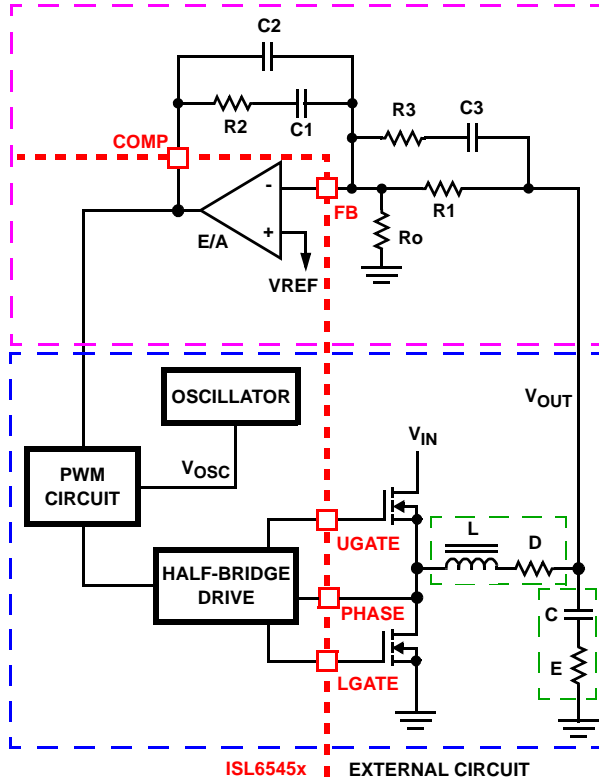

FIGURE 9. VOLTAGE-MODE BUCK CONVERTER COMPENSATION DESIGN
This section highlights the design consideration for a voltage-mode controller requiring external compensation. To address a broad range of applications, a type-3 feedback network is recommended, as shown in the top part of Figure 9.
Figure 9 also highlights the voltage-mode control loop for a synchronous-rectified buck converter, applicable to the ISL6545x circuit. The output voltage (V_{OUT}) is regulated to the reference voltage, V_{REF} . The error amplifier output (COMP pin voltage) is compared with the oscillator (OSC) modified sawtooth wave to provide a pulse-width modulated wave with an amplitude of V_{IN} at the PHASE node. The PWM wave is smoothed by the output filter (L and C). The output filter capacitor bank's equivalent series resistance is represented by the series resistor E.
The compensation network consists of the error amplifier (internal to the ISL6545x) and the external R1-R3, C1-C3 components. The goal of the compensation network is to provide a closed loop transfer function with high 0dB crossing frequency (F_0 ; typically 0.1 to 0.3 of F_{SW}) and adequate phase margin (better than 45°). Phase margin is the difference between the closed loop phase at F_{0dB} and 180°. The equations that follow relate the compensation network's poles, zeros and gain to the components (R1, R2, R3, C1, C2, and C3) in Figure 9. Use the following guidelines for locating the poles and zeros of the compensation network:
1. Select a value for R1 (1kΩ to 5kΩ, typically). Calculate value for R2 for desired converter bandwidth (F_0). If setting the output voltage via an offset resistor connected to the FB pin, Ro in Figure 9, the design procedure can be followed as presented.